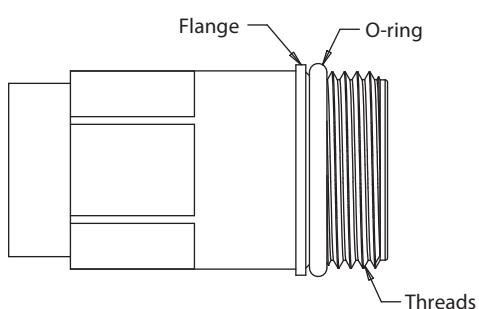

FIGURE 1
- Place o-ring onto thread ferrule so that it is seated behind the thread. (Figure 1)